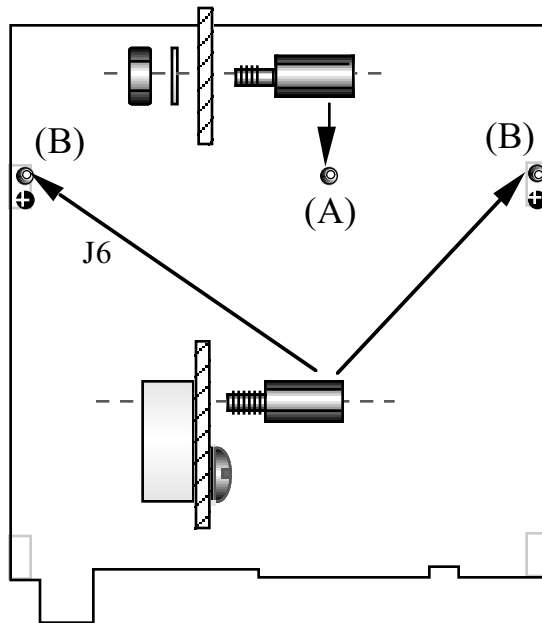

Figure 6-9
- ☐ On the top side of the RF board, locate the hole identified as (A) in Figure 6-9. (The label "S1" appears near the hole.)
- ☐ Install a 7/16" (11 mm) hex male-female standoff on the top of the board at location (A) as shown. Use an internal-tooth lock washer and 4-40 nut on the bottom. Do not over-tighten the hardware; the standoff threads can be easily stripped.
- ☐ Install 7/16" (11 mm) hex male-female standoffs at the two locations identified as (B) in Figure 6-9, replacing the existing 3/16" pan-head screws. *Do not use any lock washers.*